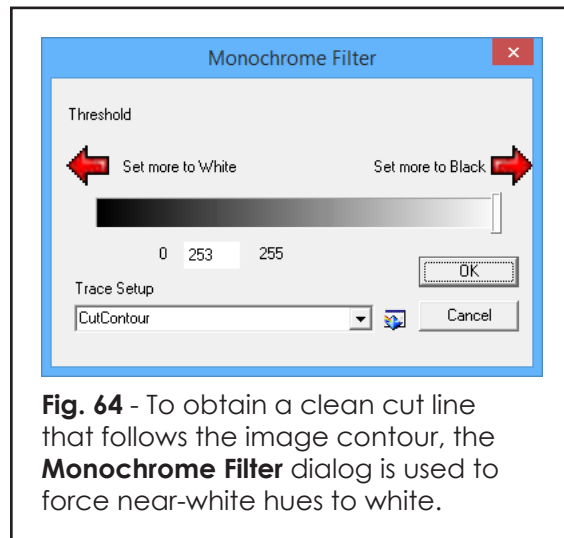

Fig. 64 - To obtain a clean cut line that follows the image contour, the **Monochrome Filter** dialog is used to force near-white hues to white.
7. Click **Apply** to create contour cut paths for the image. If the **Bitmap Frame** checkbox = OFF, then the **Monochrome Filter** dialog will open (Fig. 64).